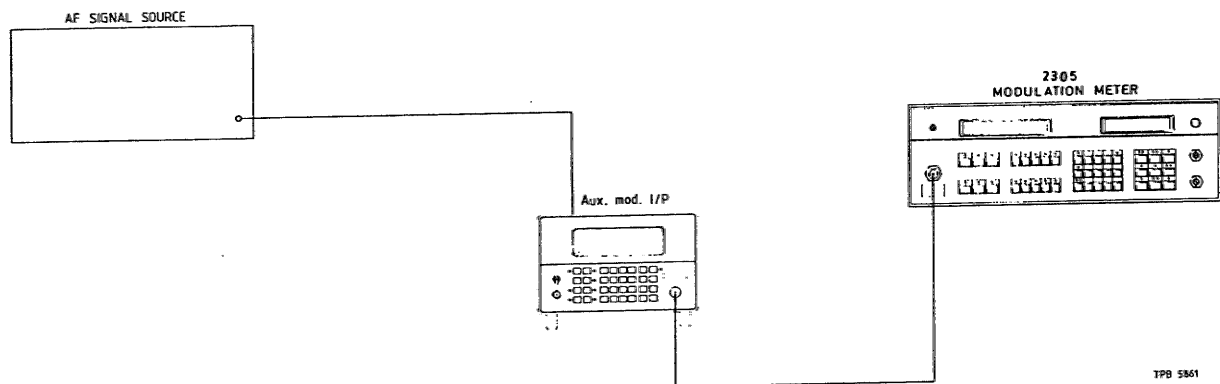

Fig. 5-9 Test gear arrangement to check auxiliary modulation
- (1) Connect the test equipment as shown in Fig. 5-9.
- (2) Set the AF signal source to give a frequency of 1 kHz at 1.00 V RMS.
- (3) Set the 2022E controls as follows :
- (4) Set the 2305 controls as follows:-